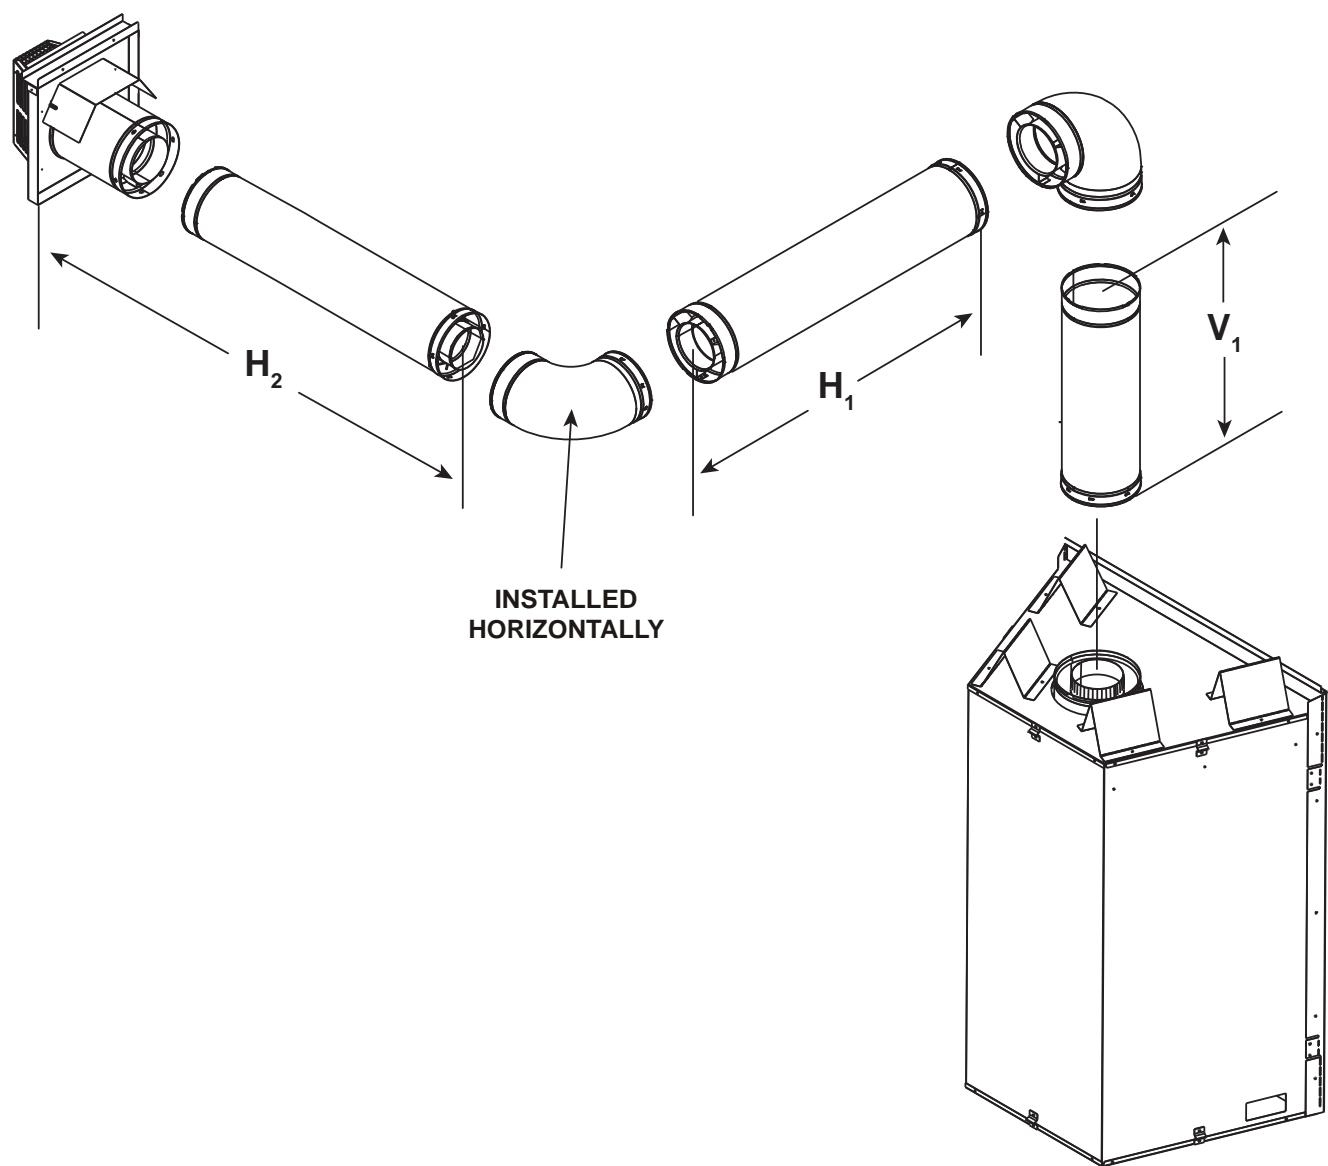

Figure 7.4 Venting with Two 90° Elbows
- Elbows may be placed back to back anywhere in the system as long as the first 90° elbow is a starter elbow except as shown in Figure 7.4.